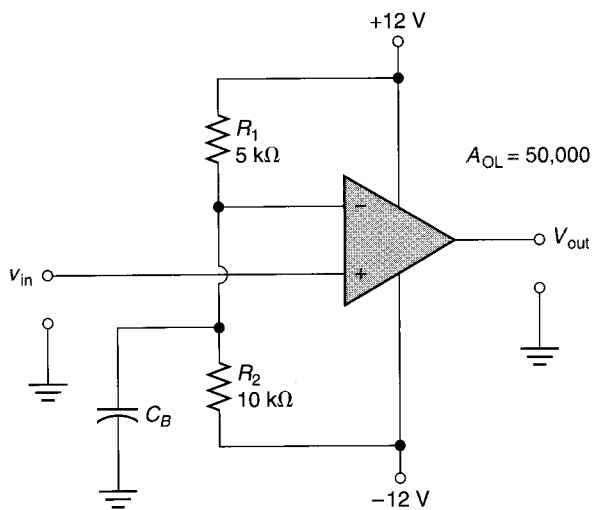

FIGURE 16.36
3. Determine the value of  $V_{\text{ref}}$  for the comparator in Figure 16.36.